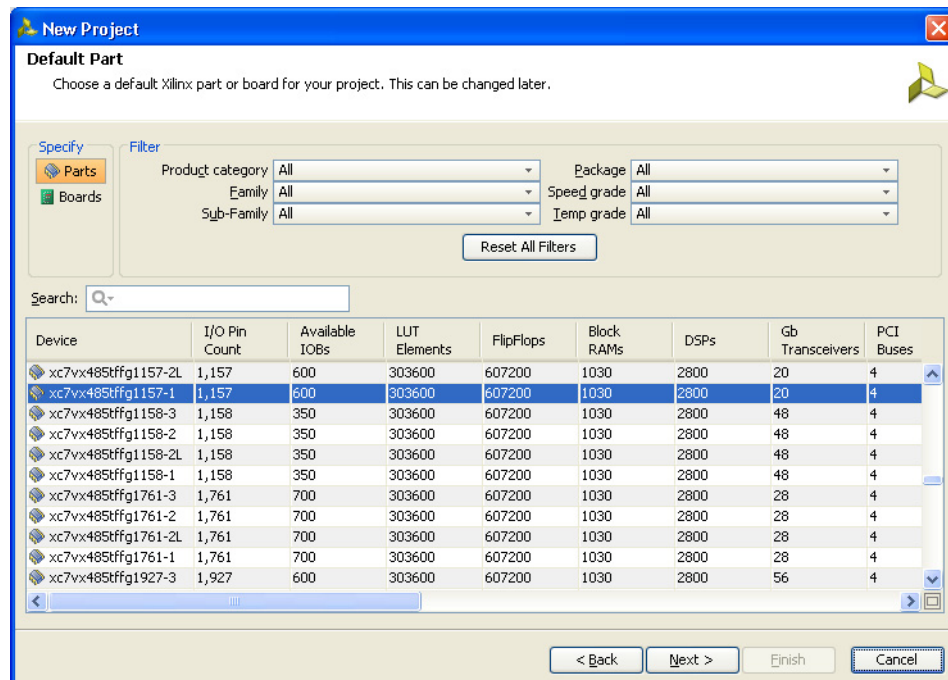

Figure 1-8: Default Part (Default Window)
8. Click **Next** to proceed to the Default Part page (Figure 1-8) where the device that needs to be targeted can be selected. The default Part page appears as shown in Figure 1-8.